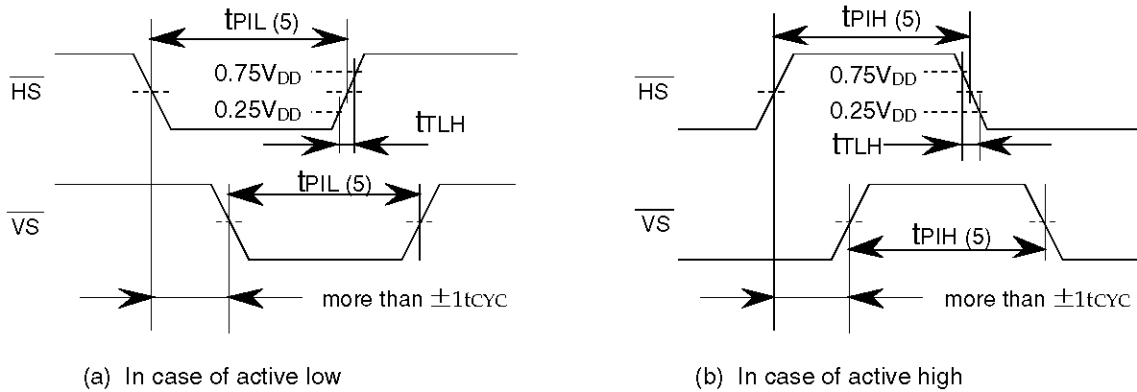

Figure 7 Pulse Input Timing Condition - 2
| | tPIH(5) tPIL(5) | $\overline{\text{HS}}$, $\overline{\text{VS}}$ | Display position controllable Each active edge of $\overline{\text{HS}}$, $\overline{\text{VS}}$ must be more than 1tCYC. Refer to Figure 7. | 4.5 to 5.5 | 10 | | | tCYC |
| Rise/fall time | tTHL tTLH | $\overline{\text{HS}}$ | Refer to Figure 7. | 4.5 to 5.5 | | | 500 | ns |